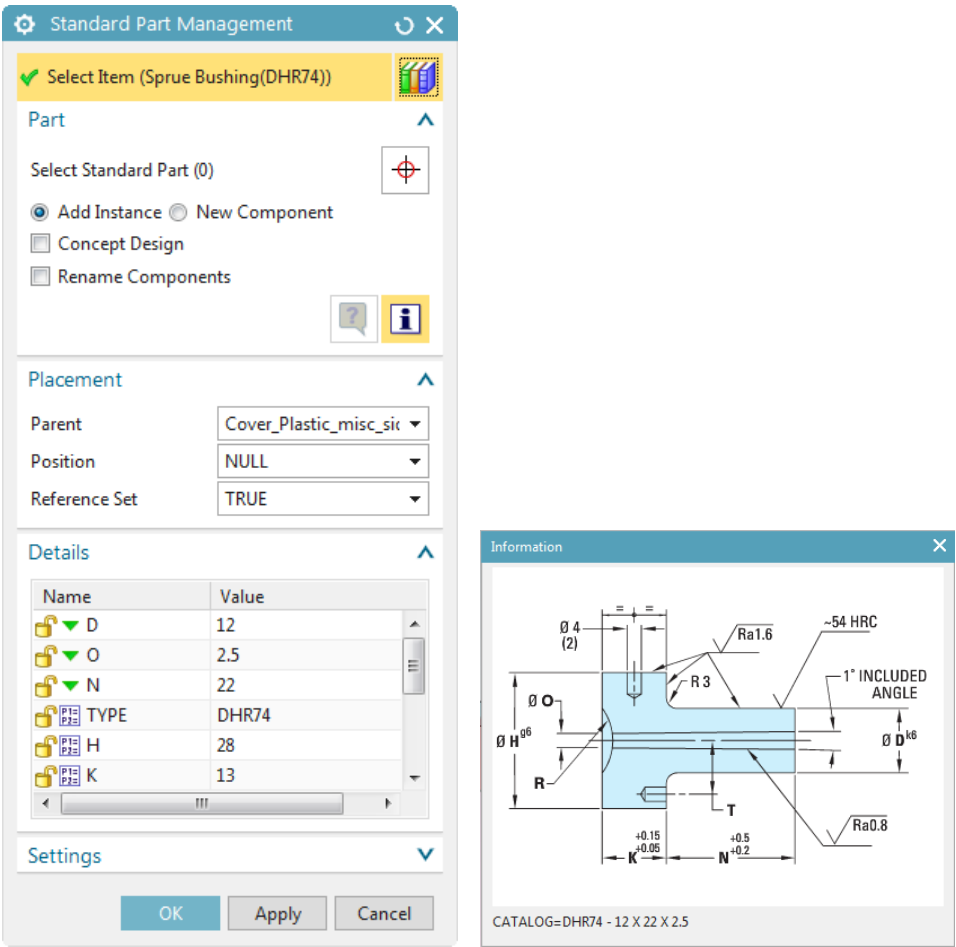

Figure 16-119 The Standard Part Management dialog box and the Information window
2. Double-click on the **Sprue Bushing(DHR74)** from the **Member Select** panel; the **Standard Part Management** dialog box is displayed with the **Information** window, refer to Figure 16-119.